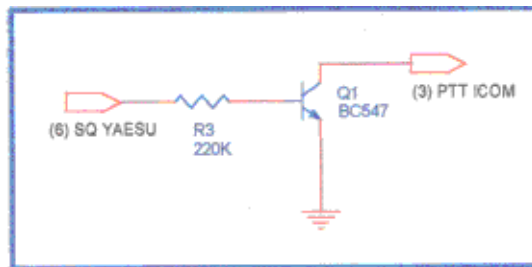

Figure 5
If we come back to the definition of the pin 6 in the instruction manuals, we can see that Yaesu and Kenwood are the same, and this pin gives 5V if the squelch is opened. Figure 5 shows the pin 6 of Yaesu (SQ) exciting a transistor, and applying their collector to the pin 3 of Icom (PTT). So, any signal received by the Yaesu will switch the PTT of the Icom.